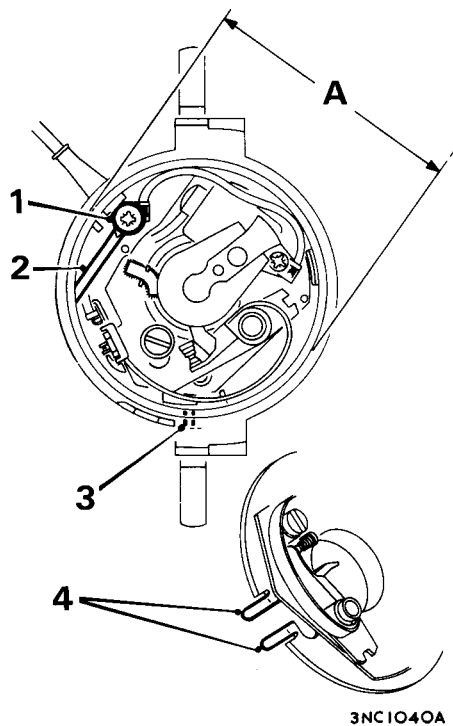

Fig. B.5
- f. Position the base plate assembly so that the two downward pointing prongs will straddle the screw hole below the cap clip, see Fig. B.5. Press the base plate into the body until it engages the undercut.
- g. Take an accurate measurement across the distributor cap register on the body at right angles to the slot in the base plate, Fig. B.5. Position the earth lead and fit and tighten the base plate securing screw. Re-measure across the cap register; if the measurement has not increased by at least 0.006 in. (9.15 mm.), renew the base plate assembly.